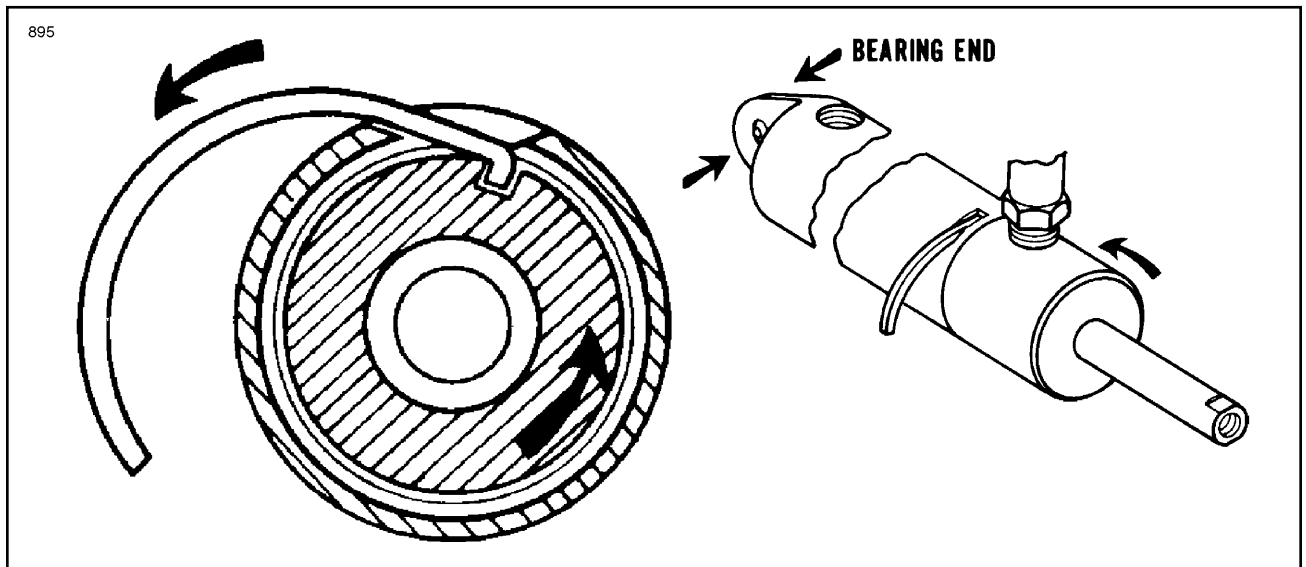

Figure 6-9. End Gland Locking Device
- a. With the cylinder removed from the airplane, push the piston rod (6) (by hand) toward the clevis (9) to remove oil from the unit.
- b. Put clevis (9) only in a soft jaw vise and clamp against the clevis bearing (10).
- c. If no pipe fitting is installed in the port of the end gland (1), install a fitting (1/8 - 27) into the port. This fitting need not be tight as it will be used for leverage only.
- d. Rotate the gland (with use of fitting) until the end of the gland lock ring (4) shows in the slot in the cylinder body (7). Reverse rotation of the gland to allow the lock ring to move out of the slot. (Refer to Figure 6-9.) (It may be necessary to give the ring an assist to start out of the slot. If so, insert a strong wire pick or other available tool in the slot to lift up the end of the ring and then rotate gland.)
- e. Pull the piston (6) and end gland from the cylinder.